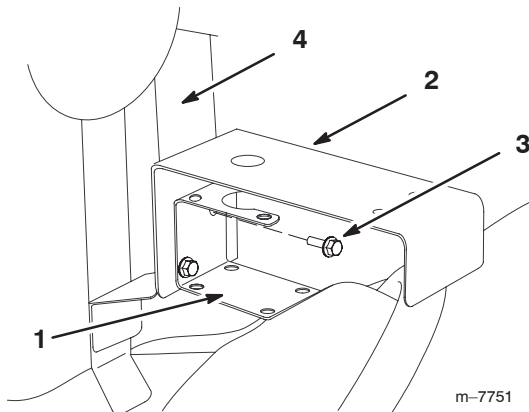

Figure 11
7. Install the control valve bracket between the supply tee bracket and the vehicle (Fig. 11).
8. Secure the supply tee bracket and control valve bracket to the mounting frame using the bolts you removed in step 6 (Fig. 11).